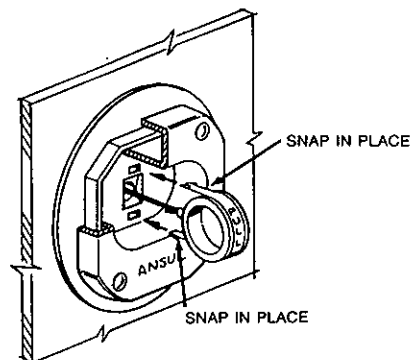

FIGURE 62
11. At the pull station, position pull ring vertically in pull station cover, insert break-away seal, Part No. 79029, through holes in cover and snap in place. See Figure 62.